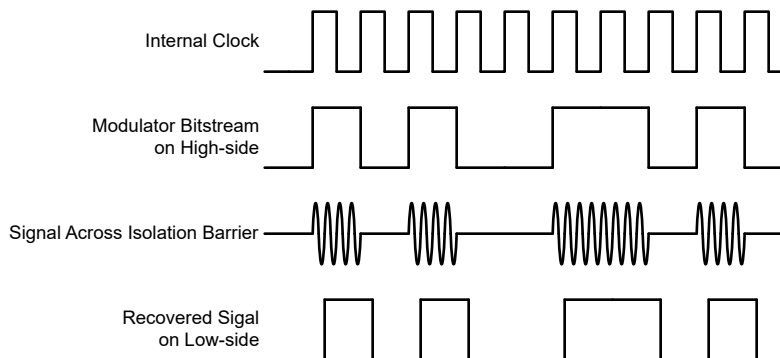

Figure 7-1. OOK-Based Modulation Scheme
The AMC3311-Q1 uses an on-off keying (OOK) modulation scheme, as shown in Figure 7-1, to transmit the modulator output bitstream across the SiO_2 -based isolation barrier. The transmit driver (TX) depicted in the Functional Block Diagram transmits an internally-generated, 480-MHz carrier across the isolation barrier to represent a digital *one* and does not send a signal to represent a digital *zero*.